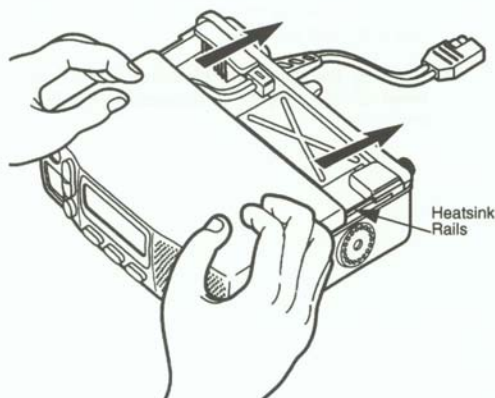

Figure 1-5. Align Housing Cover to Heatsink Rails
2. With radio on flat surface, place housing approximately halfway on heatsink rails (Figure 1-5).
3. Using both hands, press down on either side of housing to assure heatsink and housing rails are aligned (Figure 1-5).